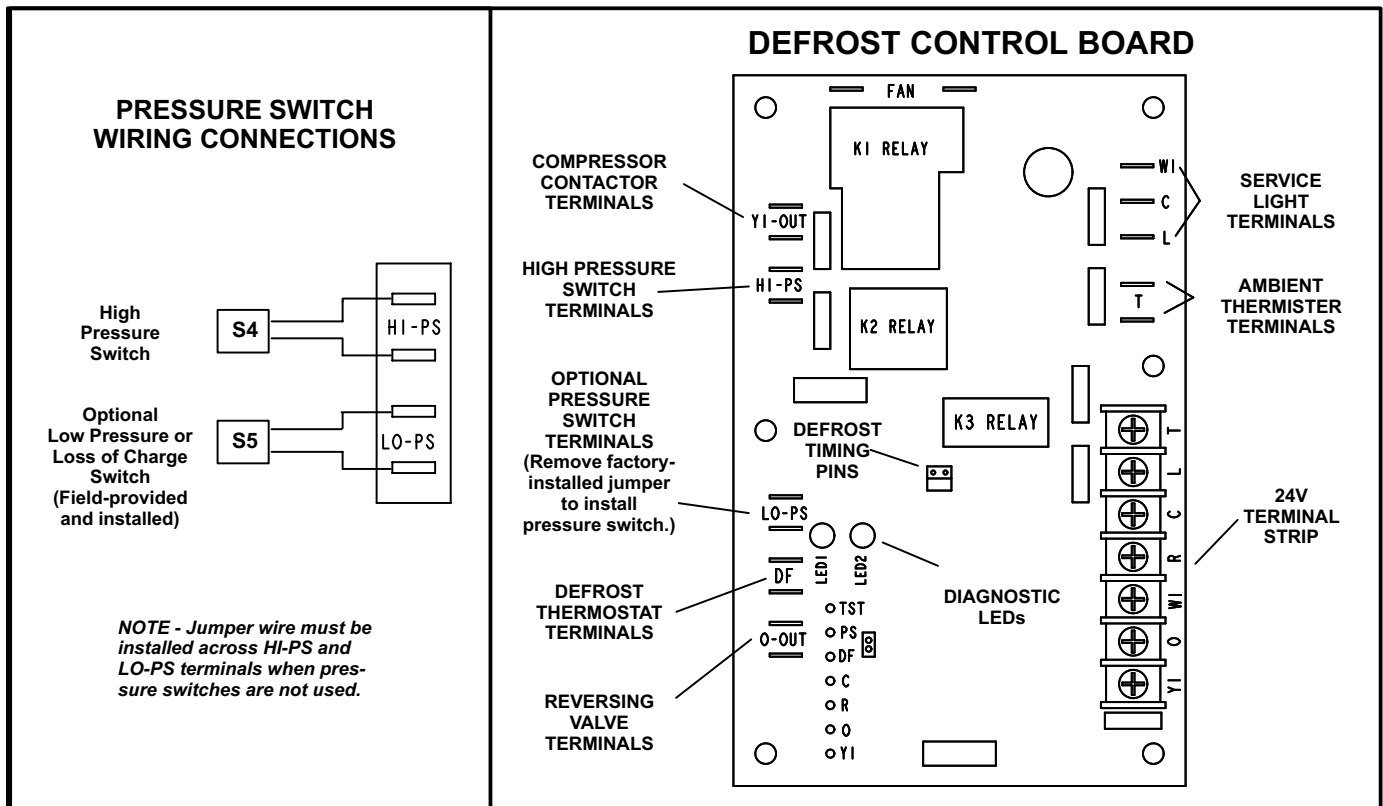

FIGURE 1
- 5 - Reconnect labeled wires to the proper terminals on the replacement board per the existing unit wiring diagram. Refer to figure 1 for pressure switch wiring and terminal identification.
The defrost control board includes the combined functions of a time/temperature defrost control, defrost relay, time delay, diagnostic LEDs, and a terminal strip for field wiring connections. See figure 1. The control provides automatic switching from normal heating operation to defrost mode and back. During compressor cycle (defrost thermostat is closed, calling for defrost), the control accumulates compressor run times at 30, 60, or 90 minute field adjustable intervals. If the defrost thermostat is closed when the selected compressor run time interval ends, the defrost relay is energized and defrost begins.
Each timing pin selection provides a different accumulated compressor run time period during one thermostat run cycle. This time period must occur before a defrost cycle is initiated. The defrost interval can be adjusted to 30 (T1), 60 (T2), or 90 (T3) minutes. See figure 1. The defrost timing jumper is factory-installed to provide a 60-minute defrost interval. If the timing selector jumper is not in place, the control defaults to a 90-minute defrost interval. The maximum defrost period is 14 minutes and cannot be adjusted.
The defrost control includes two pressure switch circuits. The factory-installed high pressure switch (S4) wires are connected to the board's HI PS terminals. The board also includes LO PS terminals to accommodate a field-provided low pressure or loss of charge pressure switch. See figure 1.